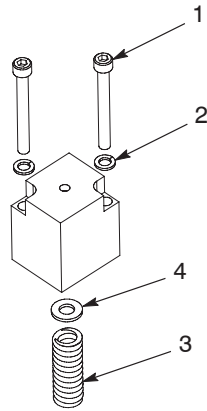

Figure 9-5 Air cap assembly components
5. See Figure 9-5. Remove the air cap assembly. If you are doing a major rebuild, remove and discard the compression spring.